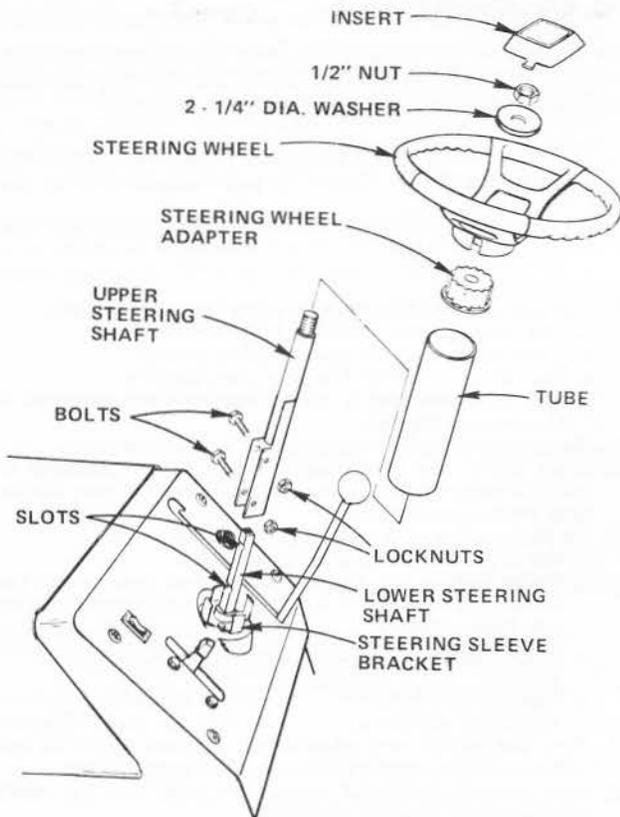

FIGURE 1
2. Slide Upper Steering Shaft over Lower Steering Shaft until bolt holes line up with slots in Lower Steering Shaft (Fig. 1).